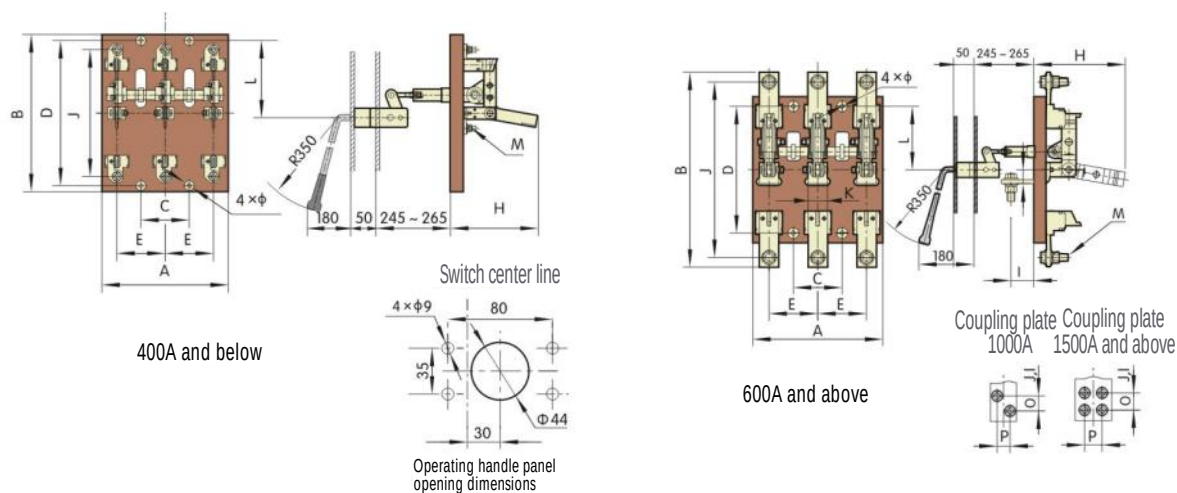

Figure 10
5.10 HS13BX outline and mounting dimensions (see Figure 10 and Table 11).